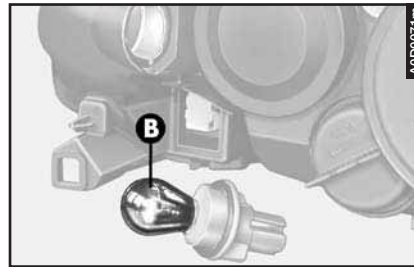

fig. 36
– Remove the bulb (**B- fig. 36**) from the bulb holder, pushing it slightly and turning it counter-clockwise.